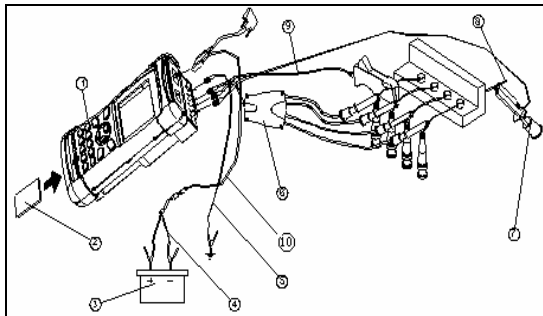

Fig.4-09
**CONNECTION 4:** Connection for secondary ignition waveform test of 4 cylinders is as shown in Fig.4-09. This connection method is applied when all high-tension wires are easily accessible.